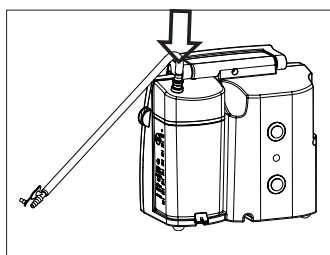

Fig 10.
- Press the required DDS hose adapter with 6 or 10 mm diameter into the hole of the DDS collection jar lid twisting slightly to ensure a tight fit (Fig 10).